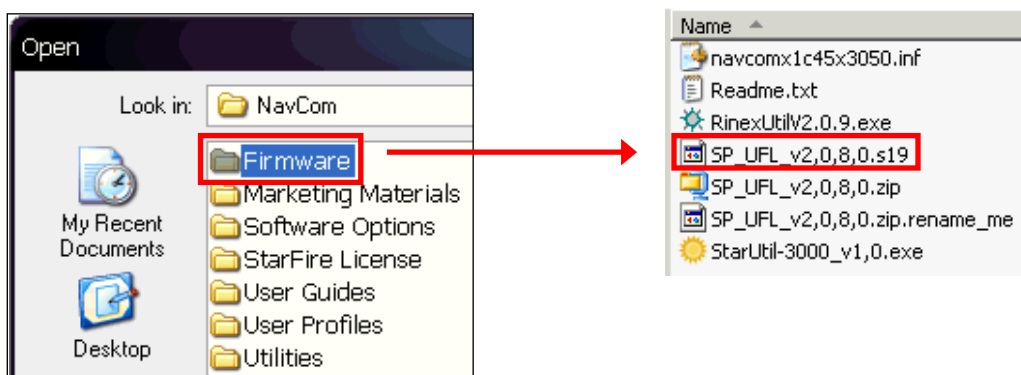

Figure 66: Firmware Folder and Contents
4. Browse to the NavCom\Firmware folder on the PC (see Figure 66).